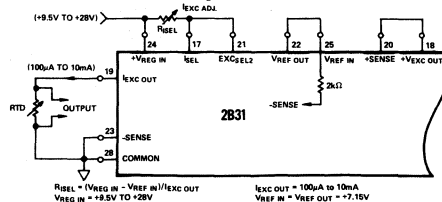

Figure 3. Constant Current Excitation Connections (VCOMPL = 0 to +5V)
**Current Excitation Programming:** The constant current excitation output can be adjusted between 100μA to 10mA by two methods with the 2B31. Figure 3 shows circuit configuration for a current output with the maximum voltage developed across the sensor (compliance voltage) constrained to +5V. The value of programming resistor RISEL may be calculated from the relationship: RISEL = (VREG IN - VREF IN)/IEXC OUT. This application requires a stable power supply because any variation of the input supply voltage will result in a change in the excitation current output.